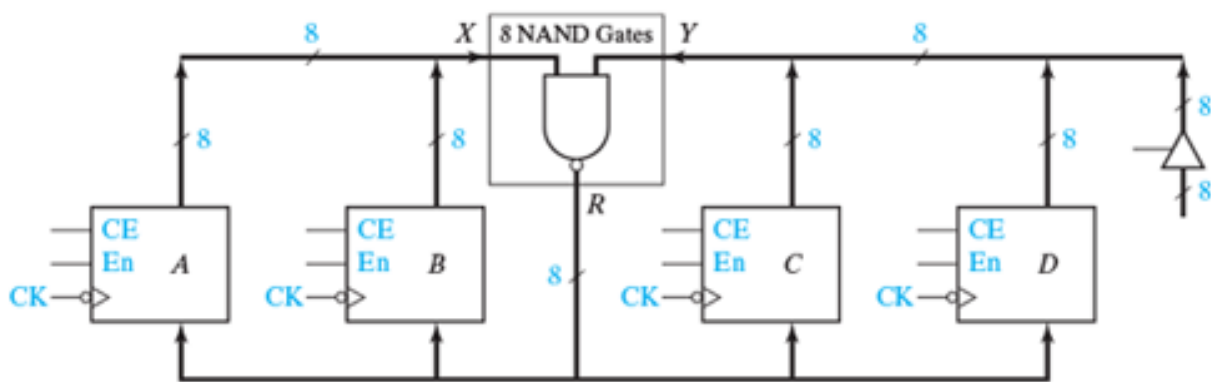

Figure 4: Circuit for performing bitwise logic functions using four 8-bit registers and NAND gates.
Figure 4 shows four 8-bit registers: *A*, *B*, *C*, and *D*. These four registers are connected via 8-bit buses. Registers *A* and *B* can output onto the *X* bus. Registers *C* and *D* can output onto the *Y* bus. To implement the bitwise logic functions, there are 8 NAND gates whose inputs are the *X* and *Y* buses. The 8 NAND gates perform bitwise NAND operation on the bits of *X* and *Y*. The output result *R* of the NAND gates can be loaded into any of the registers *A*, *B*, *C*, or *D*.
- Show how to connect a 2-to-4 decoder (with inverting outputs) such that the next rising edge of the clock will load the result *R* into register *A*, *B*, *C*, or *D* based on control inputs $G_0G_1 = 00, 01, 10$, or 11 , respectively. Add the decoder, the input signals G_0 and G_1 , and any other logic you need to the diagram shown in Figure 4. Write at least 1 complete sentence describing what you added and why it works.
- Show how to connect three control signals, E_0 , E_1 , and E_2 , to the registers such that $E_0 = 0$ places the *A* register contents on the *X* bus, $E_0 = 1$ places *B* onto the *X* bus, $E_1E_2 = 00$ places *C* onto the *Y* bus, $E_1E_2 = 01$ places *D* onto the *Y* bus, $E_1E_2 = 10$ places 00000000 onto the *Y* bus, and $E_1E_2 = 11$ places 11111111 onto the *Y* bus. You will use a few additional logic gates. (Hint: Connect E_2 to the input signal of the tri-state buffer on the right side of the circuit.) Add the input signals E_0 , E_1 , and E_2 , and any other logic you need to the diagram shown in Figure 4 along with what you added for part a. Write at least 1 complete sentence describing what you added and why it works.